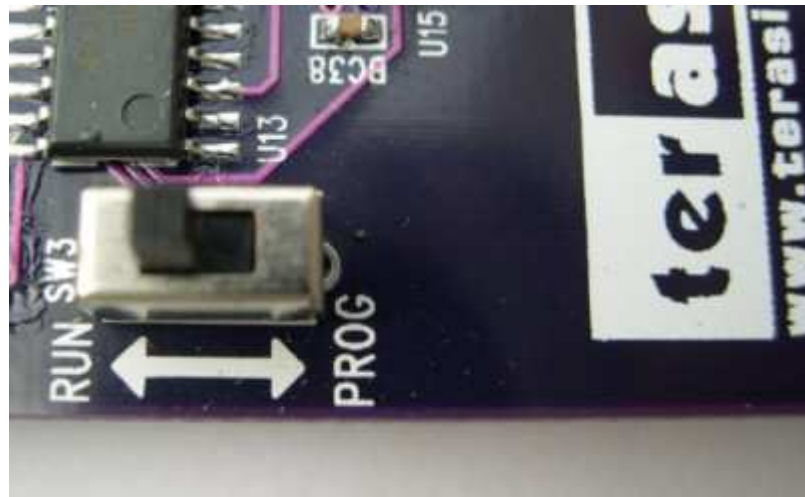

Figure 2.2. JTAG/Operation (RUN) mode and AS Mode (PROG) switch setting.
5. Make sure the [RUN<->PROG] switch is set to RUN position (Note that PROG position is only used for AS Mode programming). Please refer to Figure 2.2.